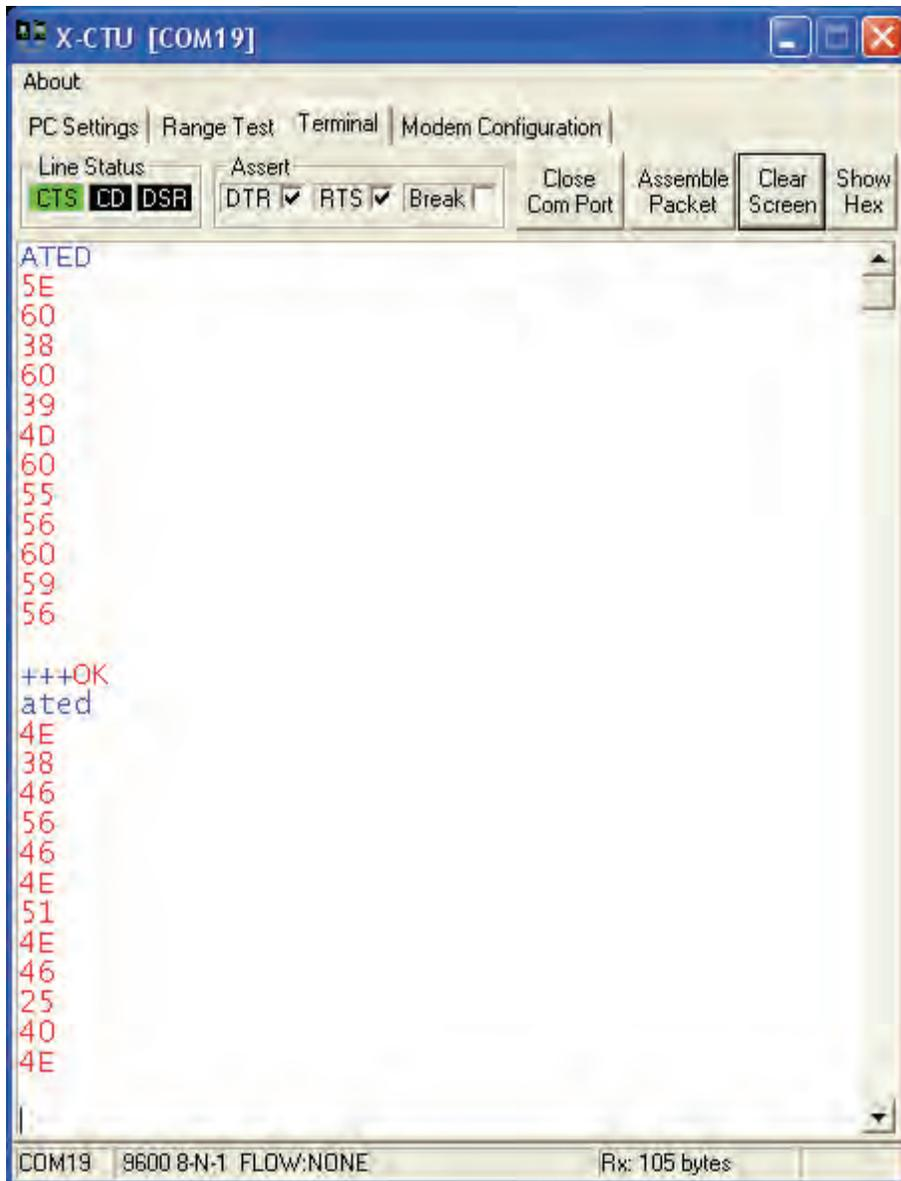

Figure 3-11: Energy Detection Tests
- ✓ Enter **ATED** to view energy on various channels, from lowest channel (C) to highest (1A, or 17 if using an XBee Pro).
**Figure 3-11** shows the results of two tests. The first was with a nearby microwave oven off, the second with it on. The higher the magnitude it shows, the less noise on that channel. A value such as 4E would convert to a decimal value of 78, so this channel would have a noise level of -78 dBm. We want as little noise in the background as possible. A higher magnitude means a lower noise level. Having the microwave on raised the noise on nearly all channels (there is also WiFi in the area on 2.4 GHz which may be affecting channel readings as well).